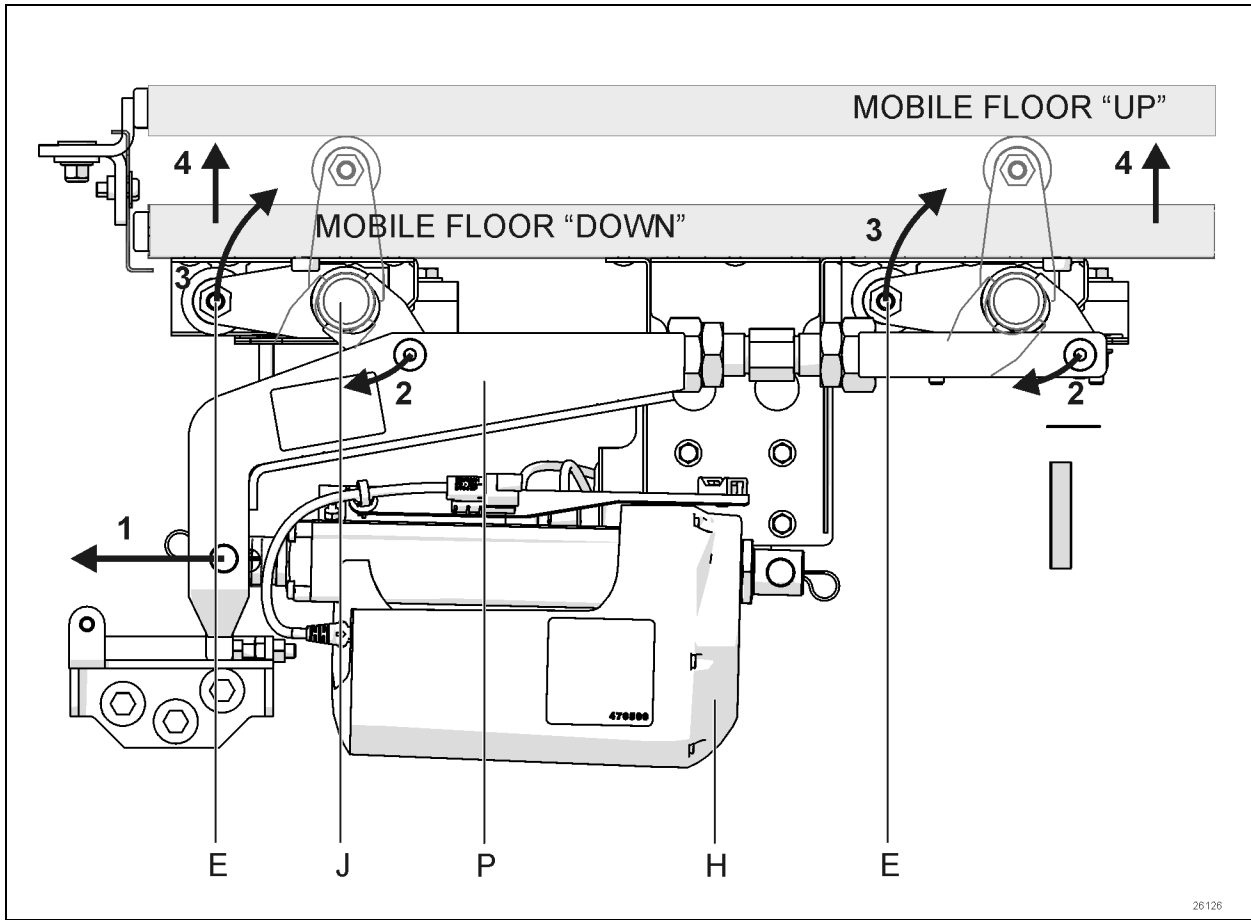

FIGURE 58: FLUSH FLOOR LIFTING
When the linear actuator extends (Figure 58, 1), the transfer arm rotates the floor lift shaft links inward (2), rotating at the same time the eccentric rollers upward (3), effectively lifting the mobile floor (4) The vertical movement of the floor is guided by a pair of vertical linear bearings (G).